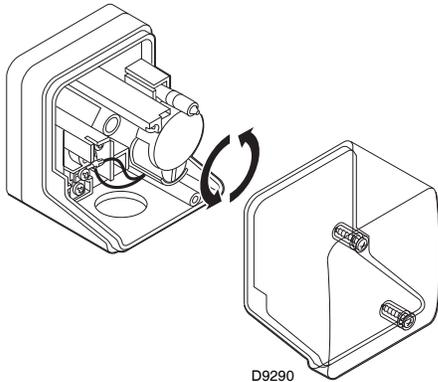

Fig. 38
- Adjust the minimum gas pressure (Fig. 38) switch to the start of the scale.